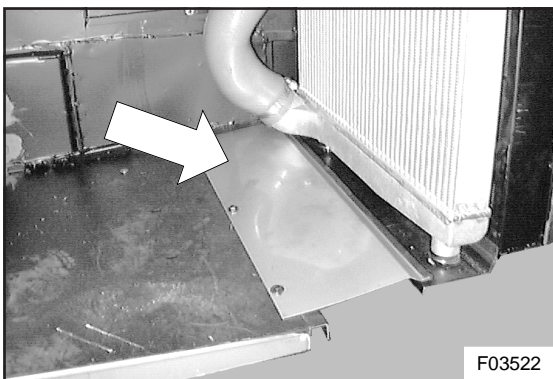

Figure 7: Radiator compartment bottom closing plate
9. Undo and remove the three cap-screws securing the radiator compartment bottom closing plate (see Figure 7). Remove closing plate.